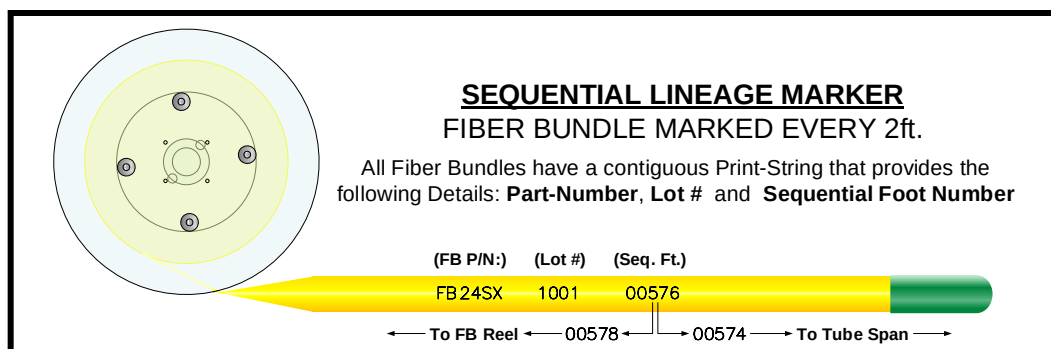

Figure 3 - Print String (Sample) - Always Record Sequential Foot Marker before starting the blow
6.5 Verify the Fiber Bundle Print-String to locate the foot measurement. **See Fig 3.** Always record the Sequential Foot Number printed on the Fiber Bundle to determine the total distance of a span.